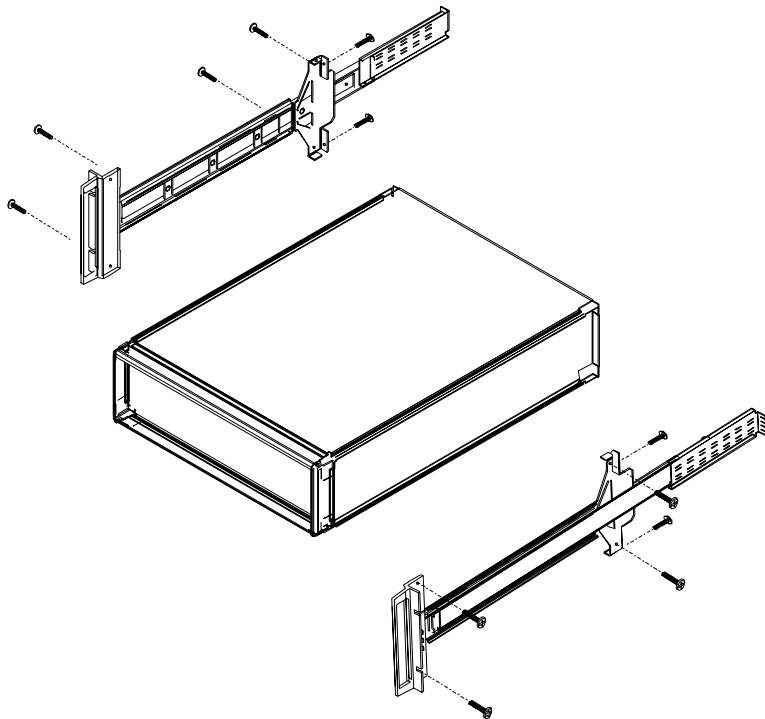

Figure 2-4. Rack Mounting Hardware Installation
- Step 4.** Place the left side inner slide assembly onto the instrument case with the handle towards the front of the instrument (Figure 2-4).